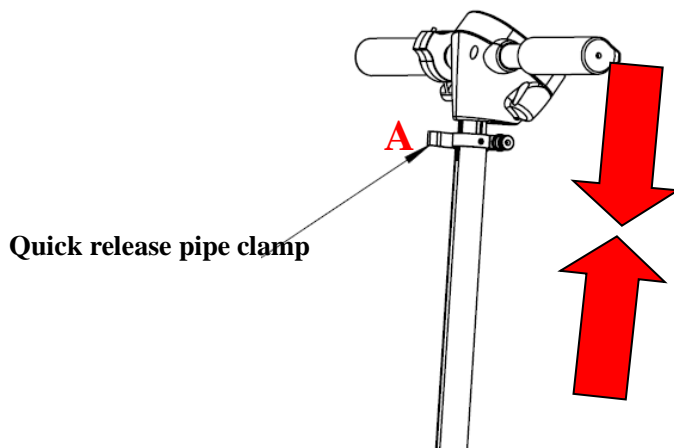

Figure 6. Steering height adjustment
1. Pull the arrow shown in Part A of Figure 6 to quickly remove the pipe clamp, and then pull the faucet handle up and down to adjust the height;